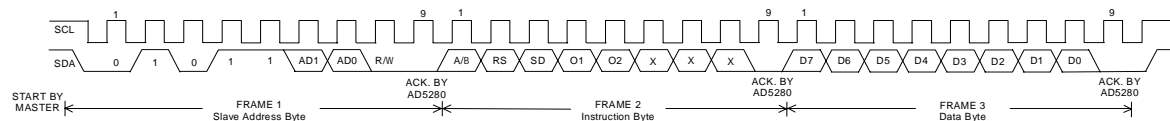
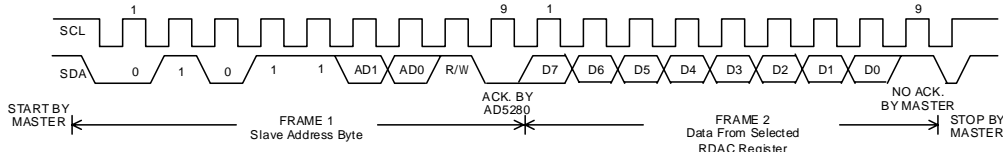

Figure 2. Writing to the RDAC Register
Figure 3. Reading Data from a Previously Selected RDAC Register
Referring from Figures 2 and 3, the first byte of AD5280/AD5282 is a Slave Address Byte. It has a 7-bit slave address and a R/W bit. The 5 MSBs are 01011 and the following
1. The master initiates data transfer by establishing a START condition, which is when a high-to-low transition on the SDA line occurs while SCL is high, Figure 2. The following byte is the Slave Address Byte which consists of the 7-bit slave address followed by an R/W bit (this bit determines whether data will be read from or written to the slave device).
2. A Write operation contains an extra Instruction Byte more than the Read operation. Such Instruction Byte in Write mode follows the Slave Address Byte. The MSB of the Instruction Byte labeled A/B is the RDAC sub-address select. A “low” select RDAC1 and a “high” selects RDAC2 for dual channel AD5282. The 2nd MSB RS is the Mid-scale reset. A logic high of this bit moves the wiper of a selected RDAC to the center tap where $R_{WA}=R_{WB}$. The 3rd MSB SD is a shutdown bit. A logic high causes the RDAC open circuit at terminal A while shorting wiper to terminal B. This operation yields almost a zero Ohm in rheostat mode or zero volt in potentiometer mode. This SD bit serves the same function as the \overline{SHDN} pin except it reacts in active low. The following two bits are O2 and O1. They are extra programmable logic output that users can make use of them by driving other digital loads, logic gates, LED drivers, and analog switches, etc. The 3 LSBs are DON’T CARE. See Figure 2.
condition, Figure 2. In Read mode, the master will issue a No Acknowledge for the 9th clock pulse (i.e., the SDA line remains high). The master will then bring the SDA line low before the 10th clock pulse which goes high to establish a STOP condition, Figure 3.